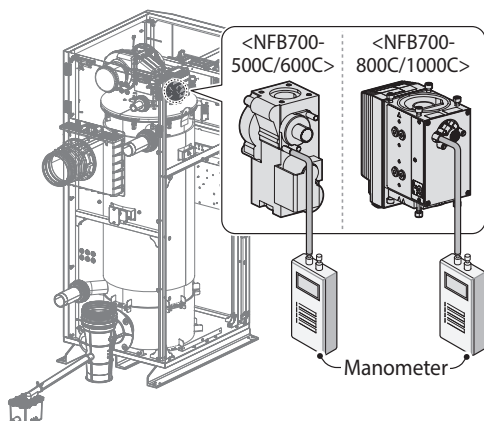

Figure 11. Connect Digital Pressure Manometer
- Open the offset pressure port by loosening the screw two turns as shown in Figure 11.